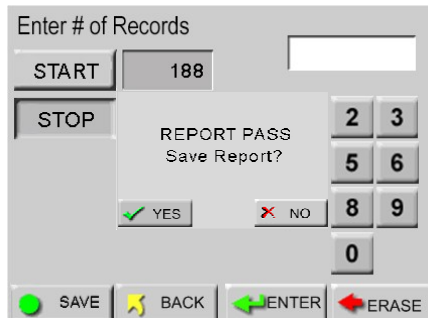

Figure 5-87 Save Report Prompt
- The **ApexPortable** will validate the data and display a REPORT PASS or FAIL and prompt the user if it should be saved (Figure 5-87). Reply, "YES".